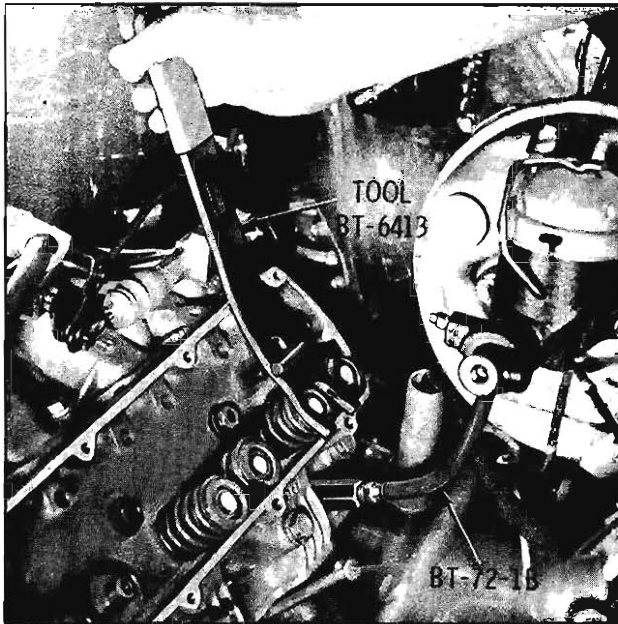

Fig. 3-420 Removing Valve Spring
3. Install Tool BT-6413, (Fig. 3-420) compress the valve spring until valve keys are accessible, then remove keys, spring retainer cups, and springs.